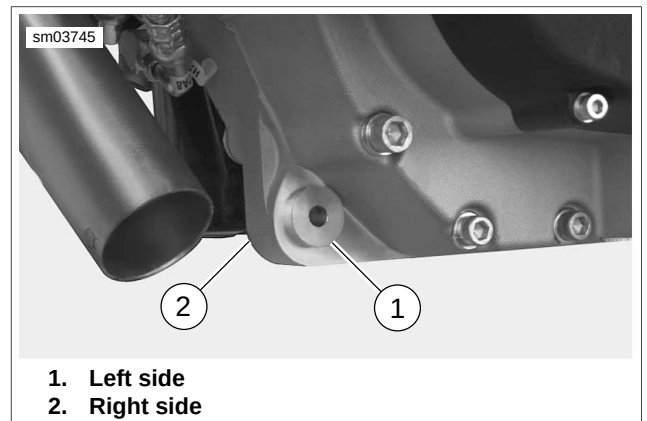

Figure 3-20. Front Exhaust Mount Bushings (2 piece)
- See Figure 3-20. Aluminum bushings from front exhaust mount.